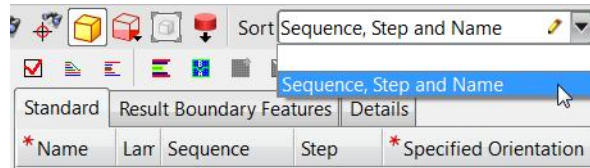

Figure 11–10
8. The list of Layers displays as shown in Figure 11–11.